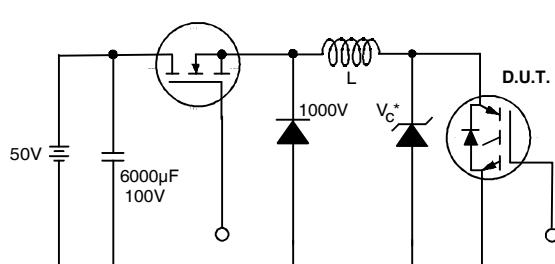

Figure 19. Clamped Inductive Load Test Circuit
- ②  $V_{CC}=80\% (V_{CES})$ ,  $V_{GE}=20V$ ,  $L=10\mu H$ ,  $R_G = 50\Omega$  (Figure 19)
- ③ Pulse width  $\leq 80\mu s$ ; duty factor  $\leq 0.1\%$ .
- ④ Pulse width  $5.0\mu s$ , single shot.